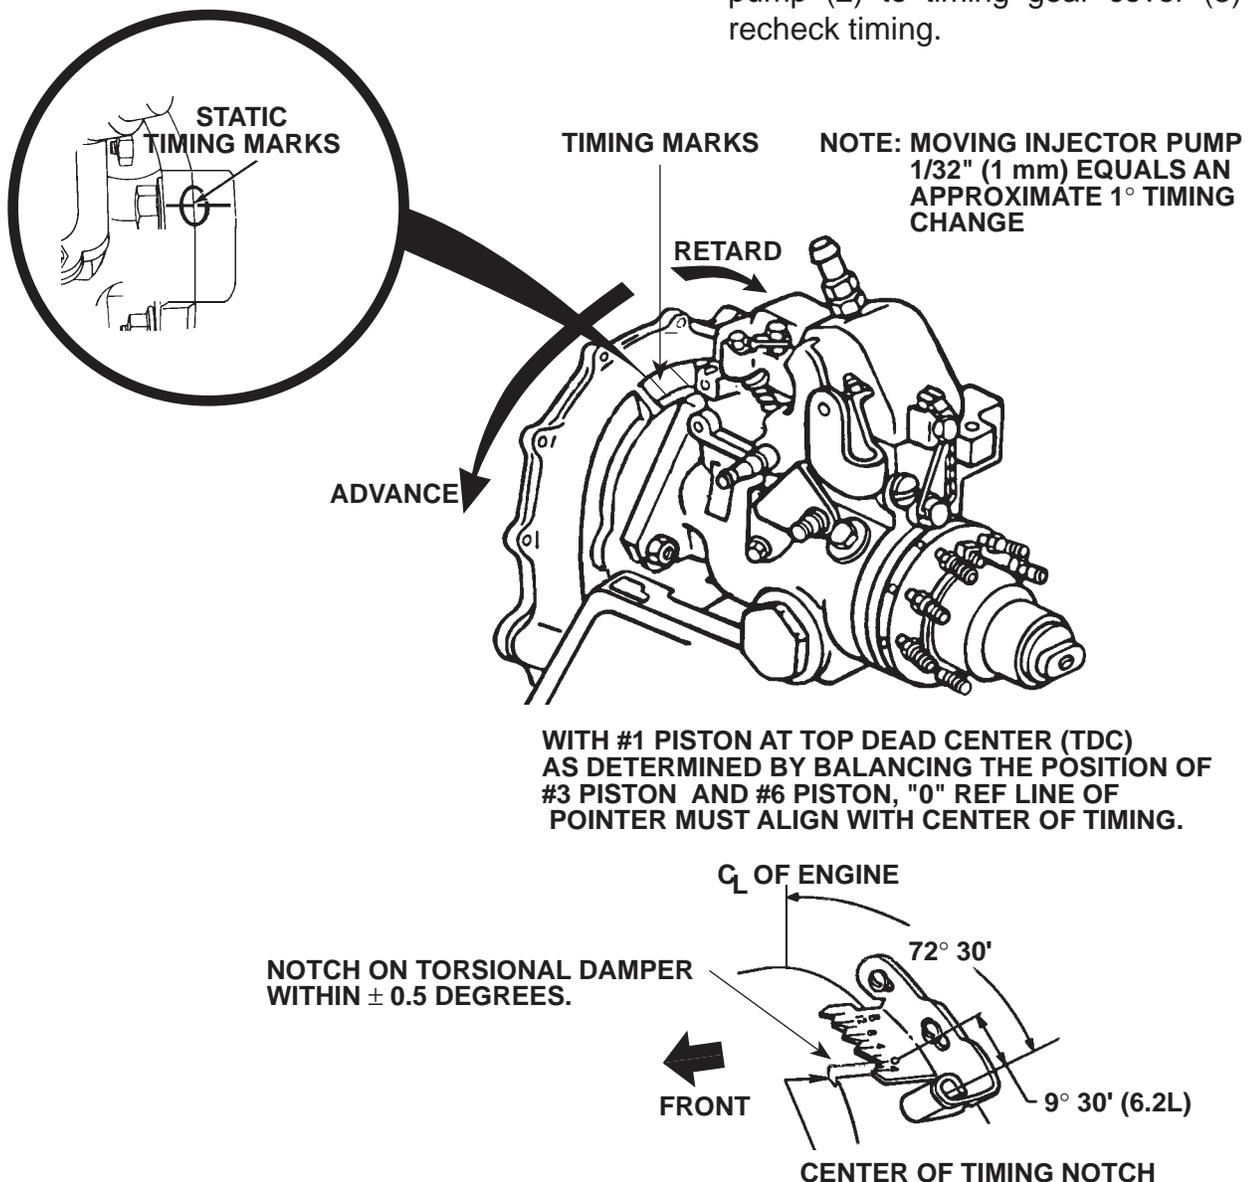

Figure 4-6. Timing Adjustment.
c. Injection Pump Timing Adjustment TACH-N-TIME (Figure 4-6)